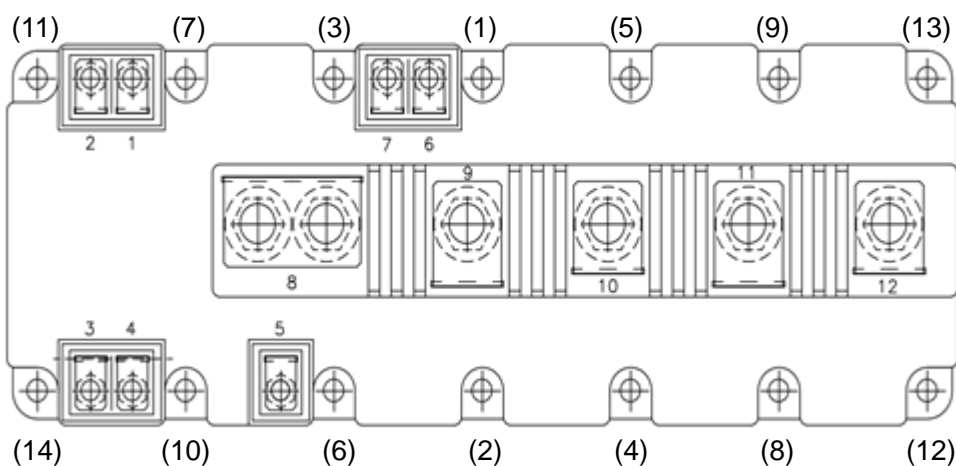

Fig1. Mounting holes connecting sequence (1) – (14) (M272 package)
(a) The minimum and maximum screw torque for mounting screws (M5) indicated as (1)-(14) in Fig.1 are:
(b) Pre-fastening is recommended with 1/3 of the final torque and sequence of (1) – (14) in Fig1.
(c) Final torque must be within specified force of 3.0 to 6.0Nm with sequence of (1) – (14) in Fig1.